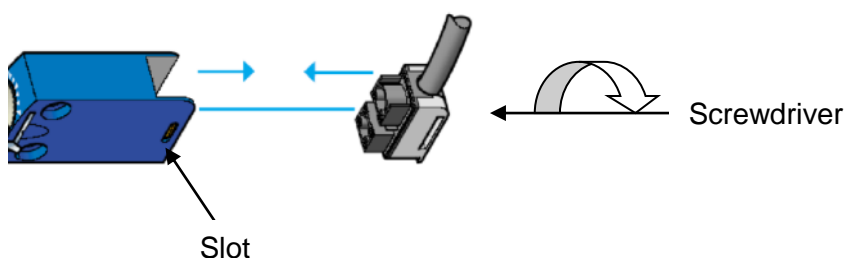

Fig. 5.1
Fig.5.1. Unlock the connector by insert the screwdriver behind the connector and turn it a 1/4 of a turn counter-clockwise and then insert the screwdriver into the slot at the side to release the connector.
2. For an easier handling, it is possible to remove the connector of indicator switches Fig. 5.1. Unlock the connector by inserting the screwdriver behind the connector and turning it a 1/4 of a turn counter-clockwise and then inserting the screwdriver into the slot at the side to release the connector. In 'ATEX' execution, it is not possible to remove the connector see Fig. 5.1.
3. Remove the 2 connectors of opening and wear contacts Fig.5.1.